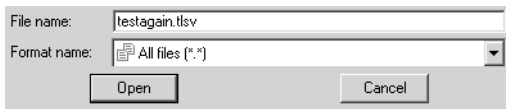

Figure 4-6. All Files
- Select All Files if the file format and type are unknown (Figure 4-6). In this case Topcon Link software automatically detects the file type and format.